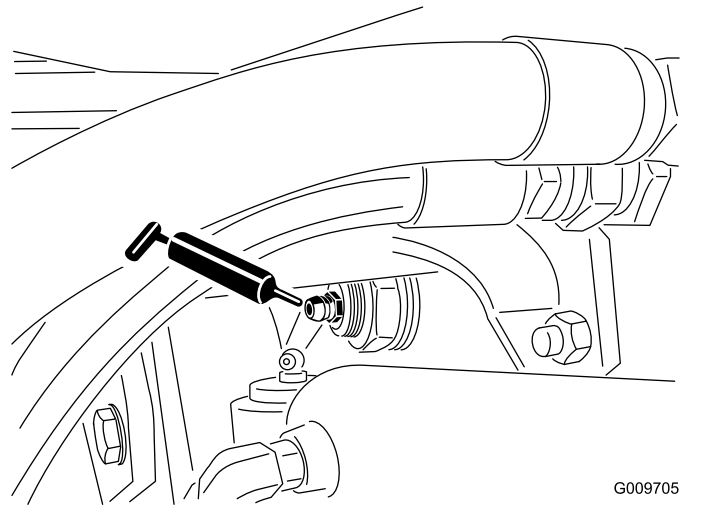

Figure 44
- Rear-axle-pivot bushings (2) as shown in Figure 44